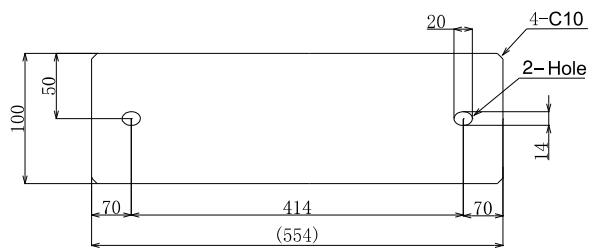

Fig. 4.6 Frame and Base Installation
- (7) The whole of the base of the outdoor unit should be installed on a foundation. When using vibration-proof mat, it should also be positioned the same way. When installing the outdoor unit on a field-supplied frame, use metal plates to adjust the frame width for stable installation as shown in Fig. 4.6.